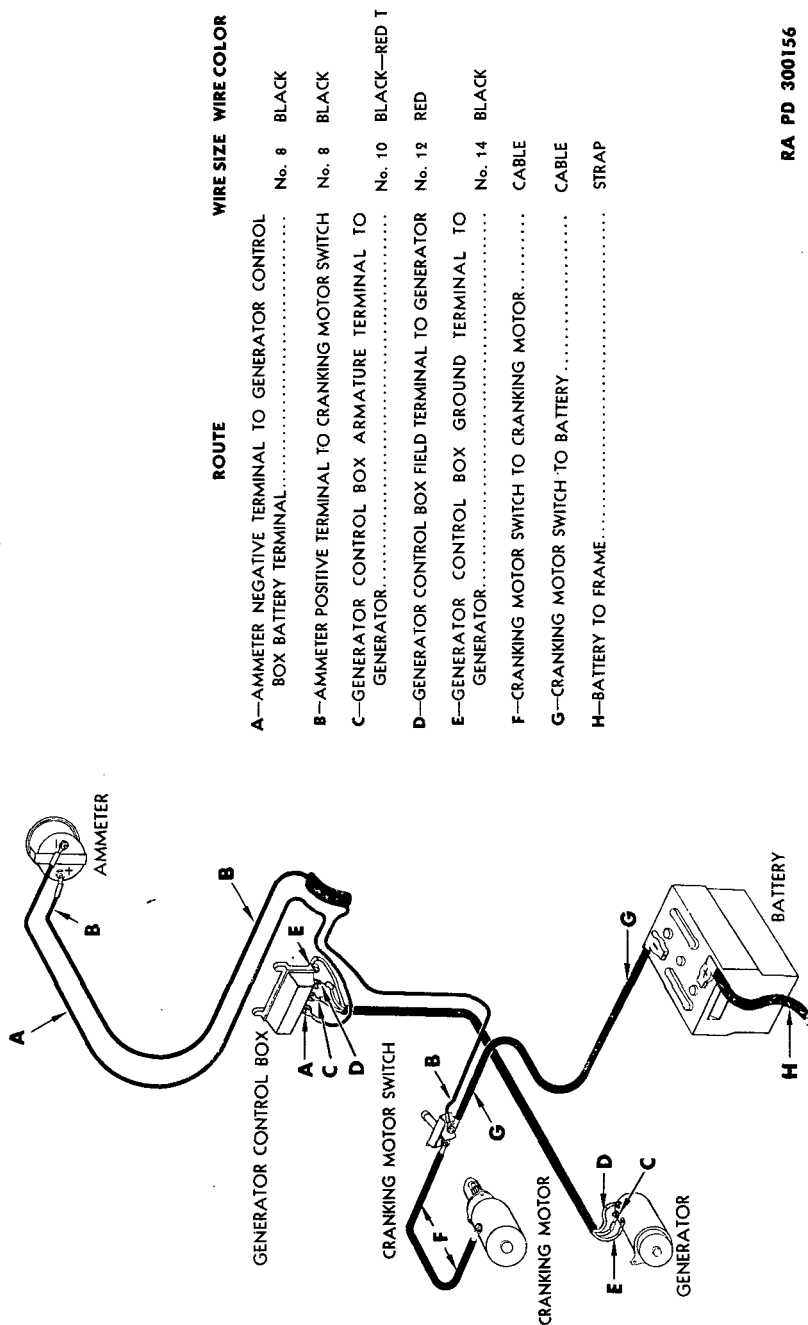

Figure 65—Starting and Generating Systems Wiring Diagram
a. **Description.** The starting and generating system consists of a 6-volt cranking motor, foot-operated cranking motor switch, 6-volt generator, three-unit generator regulator, and necessary connecting wiring and cables. The starting and generating wiring diagram is shown in figure 65.